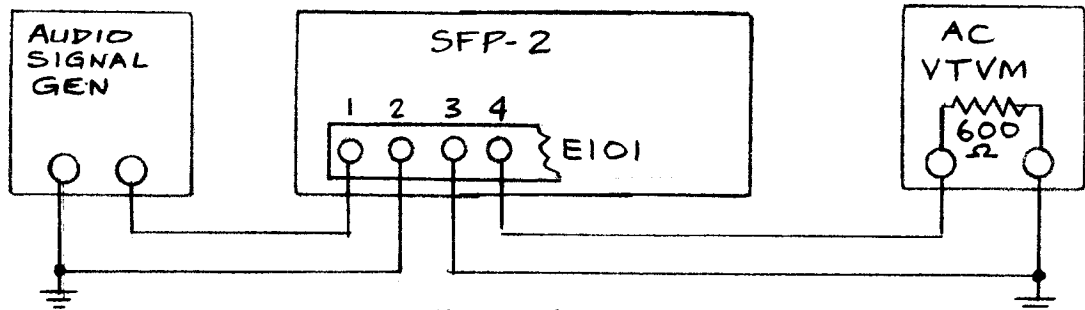

Figure 1.
1. For CHANNEL 1, connect test equipment as shown in Figure 1: